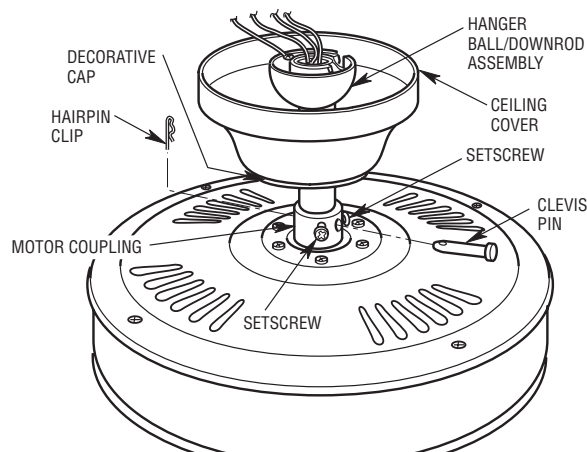

Figure 1
- 3. Loosen the two setscrews in the motor coupling. Align the clevis pin holes in the downrod with the holes in the motor coupling. Install the clevis pin and secure with the hairpin clip (Figure 1). The clevis pin must go through the holes in the motor coupling and the holes in the downrod. Be sure to push the straight leg of the hairpin clip through the hole near the end of the clevis pin until the curved portion of the hairpin clip snaps around the clevis pin. The hairpin clip must be properly installed to prevent the clevis pin from working loose. Pull on the hanger ball to make sure the clevis pin is properly installed.
- 4. While pulling up on the hanger ball, securely tighten the two setscrews in the motor coupling (Figure 1).